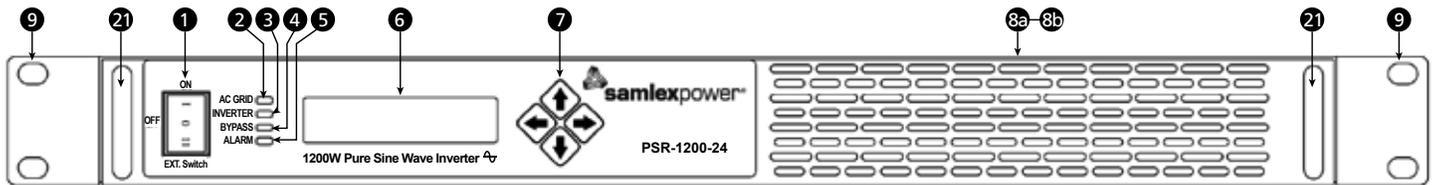
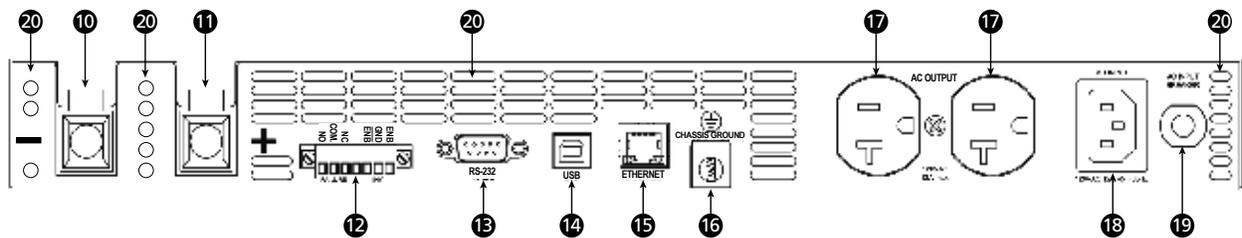

Fig 6.1 Front view and layout of Front Panel (With mounting brackets)
Fig 6.2 Rear view and layout of Rear Panel (Without mounting brackets)
Relays RL-1 [for Line (L) side] and RL-2 [for Neutral (N) side] are in de-energized condition if AC GRID input is NOT available. These 2 relays will be energized as soon as AC GRID is available [irrespective of the position of the Front Panel On/Off Rocker Switch (1, Fig 6.1)]. 12VDC power for energization of these 2 relays is supplied by internal Switched Mode Power Supply (SMPS) that is fed from the AC GRID input. As these relays will be powered by the AC GRID input, their energization will not drain any DC power from the 24V/ 48V battery system used to power the Inverter Section.
If AC GRID input is being fed to the unit through AC Inlet (18, Fig 6.2) and has been switched ON, it will be bypassed to the AC outlets (17, Fig 6.2) even if the Inverter Section has been switched OFF either through the 3-Position Rocker Switch (1, Fig 6.1) or through the Wired Remote On/Off Control (Section 5.7). See explanation below:
As soon as AC GRID input is available, Relays RL-1 and RL-2 will get energized (even if the Inverter Section has been switched OFF either through the 3-Position Rocker Switch or through the Wired Remote On/Off Control). Normally Open (NO) contact pairs 1-2 and 3-4 will be closed. As the Inverter section is OFF / not supplying the load, the Normally Closed (NC) contacts of Relays RL-4 and RL-5 will bypass the AC GRID input voltage to the AC Outlets (17, Fig 6.2).
When the unit is used as an independent Inverter with no input connection to the AC GRID, it will be considered as a "Separately Derived System" as per Article 250 of the National Electrical Code (NEC). As per this Code, the Neutral Conductor of the Inverter output has to be bonded to its Equipment Ground (metal chassis of the unit). The Equipment Ground (metal chassis of the unit) has to be connected to the Earth Ground through the Grounding Terminal (16, Fig 6.2) so that in case of a Ground fault, the Inverter will be able activate its over-current shut down protection. However, if the unit is being used as a UPS and is fed from AC GRID Supply Panel, it will be considered "NOT Separately Derived System" but as a "downstream load" as far as the AC GRID Supply Panel is concerned. The AC GRID Supply Panel will have its Neutral bonded to the Earth Ground (through the Ground Rod). As per NEC, it is not permitted to bond the Neutral and Equipment Ground (metal chassis) of any down-stream load being fed from the AC GRID Supply Panel. To meet the above requirements, Relay RL-3 is energized only when the Inverter is supplying power i.e. when Transfer Relays RL-4 and RL-5 are energized (See Section 5.4.1).
The Inverter Section can be switched ON and OFF using wired remote ON / OFF control. For this, terminals ENB, GND and ENB have been provided in the 7-Way Terminal Block at the rear of the unit (12, Fig 6.2).
IMPORTANT NOTE: For activation of wired remote ON / OFF function, the 3-Position Rocker Switch on the Front Panel (1, Fig 6.1) has to be pressed down towards position marked "EXT. Switch".
Layouts of the Front and Back Panels are shown in Figs 6.1 and 6.2 below:
LEGEND FOR FIGS 6.1 AND 6.2